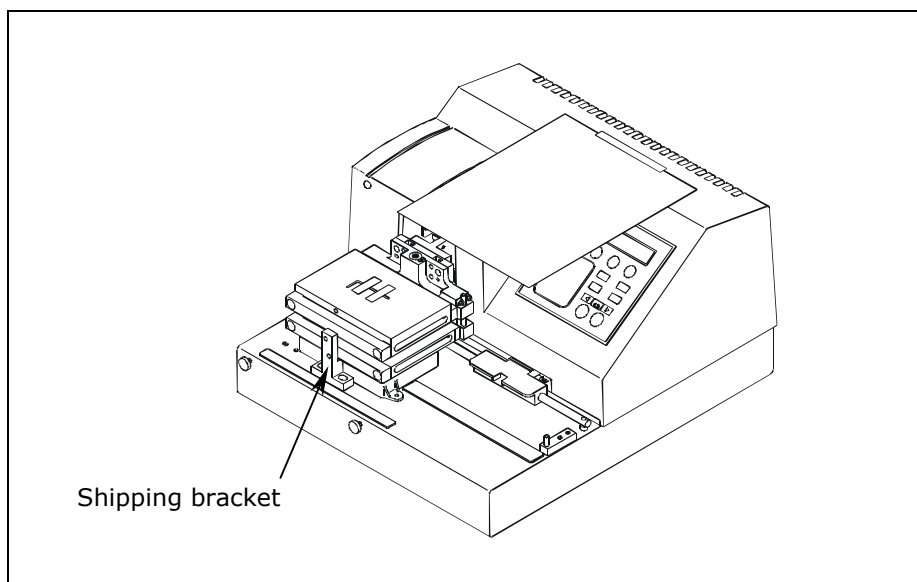

Figure 5: Manifold Shipping Bracket
8. Note the manifold shipping bracket in **Figure 5** (the Select model is shown). Follow the instructions on page 21 for removing the bracket.